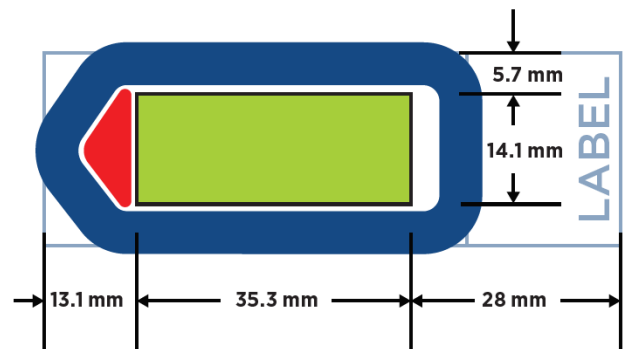

Figure 10: Slide dimensions. Measure from label edge of slide as reference point.
- Tissue sections must be placed in the **Scan Area** (shown in green in Figure 10) in the center of the slide and be **no larger than 35.3 mm long by 14.1 mm wide**. They should not overlap the slide gasket (shown in blue) or the tip calibration area (shown in red). If mounting multiple sections per slide, ensure that tissues are at least 2–3 mm apart and still fit within the Scan Area.